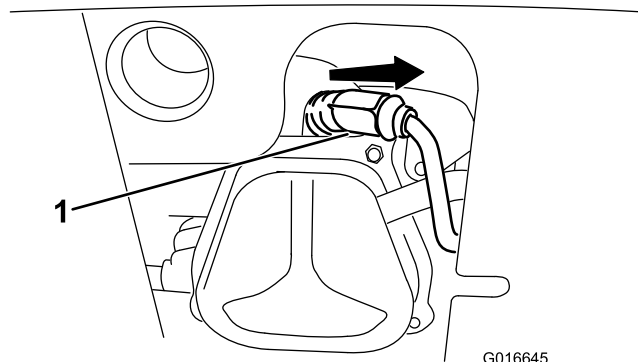

Figure 44
1. Remove the boot (Figure 44).